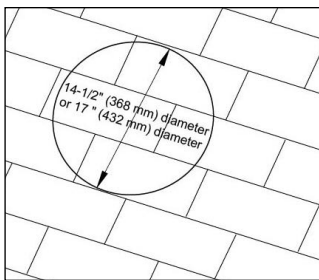

Figure 3
- 4. Cut roof hole...** between two rafters using predrilled marker and template on back of carton, cut your hole to the proper size (size and placement of hole are determined by whether you have 16" [406 mm] or 24" [610 mm] center rafters). See Figure 3.